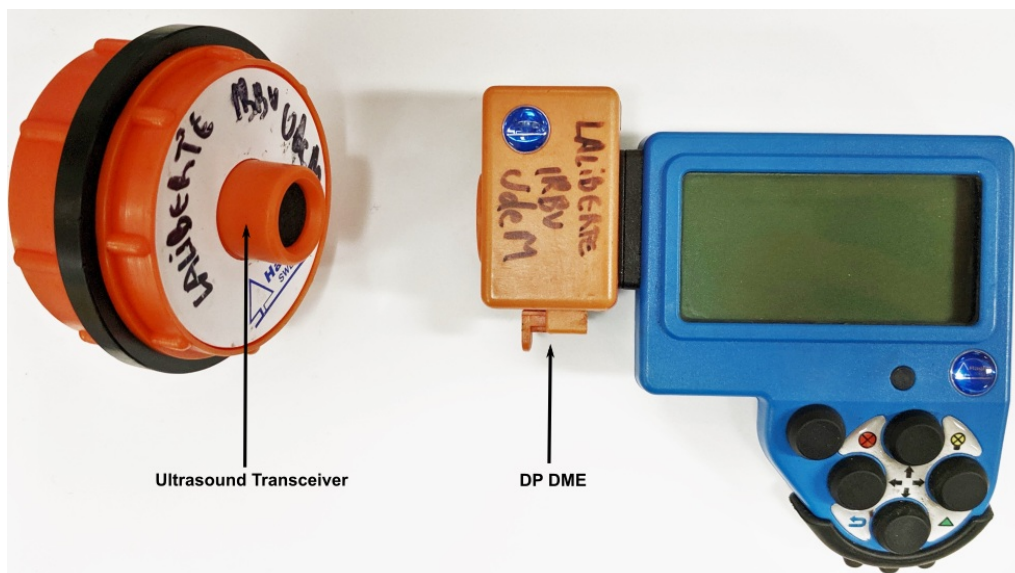

Figure 1. Photograph of how to orient transponders and DP II handheld device to activate (and deactivate) transponders.
- As the DP II measures, aim the DP DME towards the ultrasound transceiver of each transponder (Fig. 1).